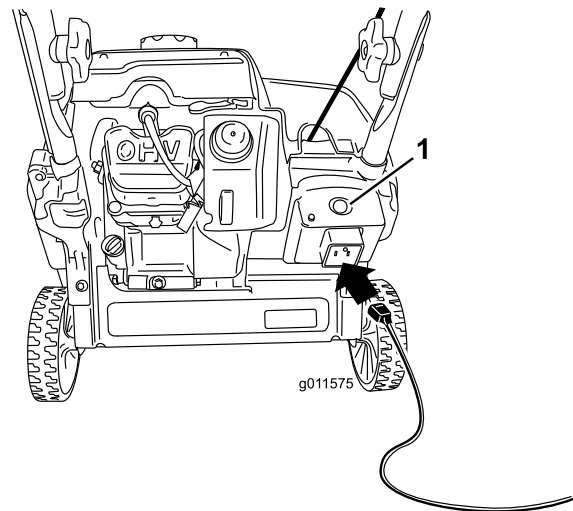

**Figure 18**
3. Firmly push in the primer 2 times with your thumb, holding the primer in for a second before releasing it each time (Figure 18).